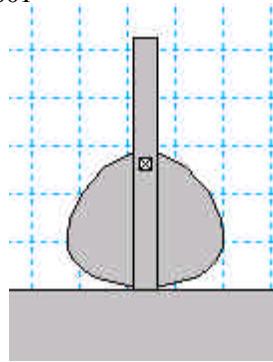

Figure 21. Step 4.
4. Select the square pin (again be sure that the angle of the pin is 90 deg.) and the slot element and click the “Join” button, Figure 21.